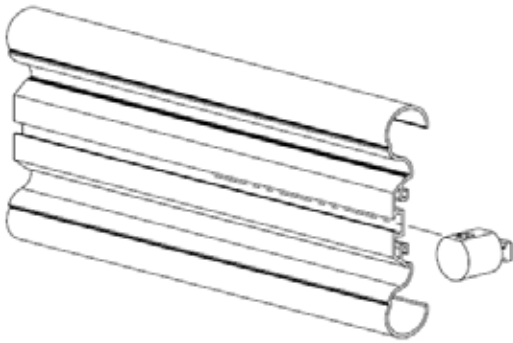
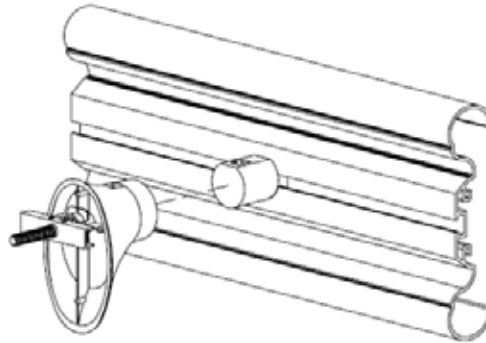
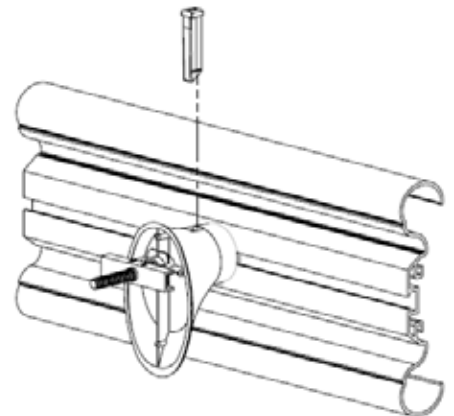

Figure 10
Figure 11
Figure 12
STEP 6. Insert the required amount of locking brackets for the run into the channel on the back of the aluminum retainer with the flat side of the locking bracket facing up (see Figure 10). Align the locking brackets with the standoffs along the run, then lift the handrail assembly into place, pushing the locking brackets into the standoffs (see Figure 11). Insert and push down on the locking pin until it is flush with the top of the standoff to lock the handrail assembly into place (see Figure 12). Should you need to remove the handrail for any reason use a screw driver at the bottom of the standoff to push the clip up unsnapping the mounting bracket from the standoff.